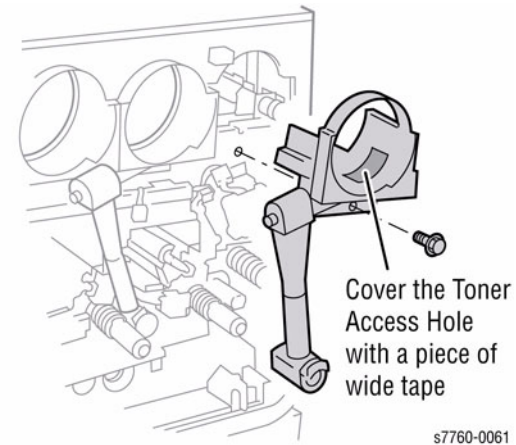

Figure 1 Removing Toner Dispenser
- a. Cover the exposed opening with a wide piece of tape to avoid spillage (Figure 1).
- b. Beginning with the Yellow Toner Dispenser, remove the screw securing each Dispense Assembly to the Printer (Figure 1).